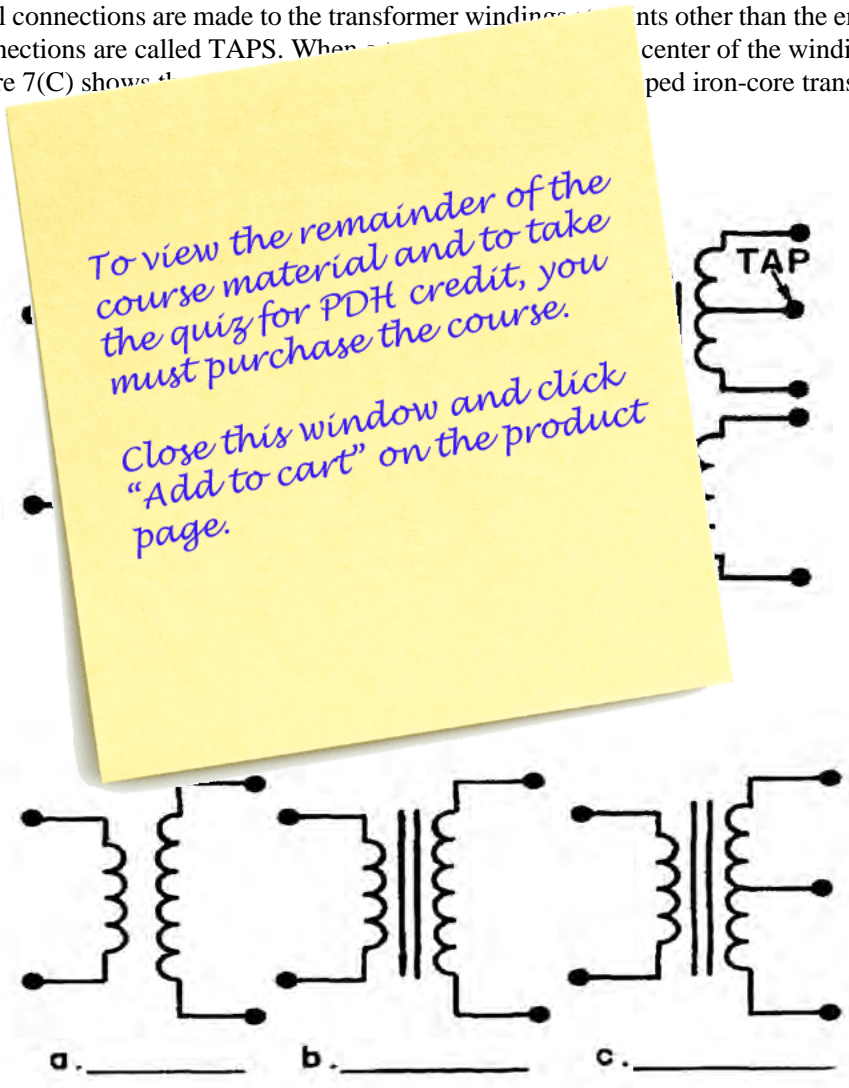

Figure 7.—Schematic Symbols for Various Types of Transformers
Figure 7 shows typical schematic symbols for transformers. The symbol for an air-core transformer is shown in figure 7(A). Parts (B) and (C) show iron-core transformers. The bars between the coils are used to indicate an iron core. Frequently, additional connections are made to the transformer windings at points other than the ends of the windings. These additional connections are called TAPS. When a tap is made at the center of the winding, it is called a CENTER TAP. Figure 7(C) shows the schematic symbol for a center-tapped iron-core transformer.